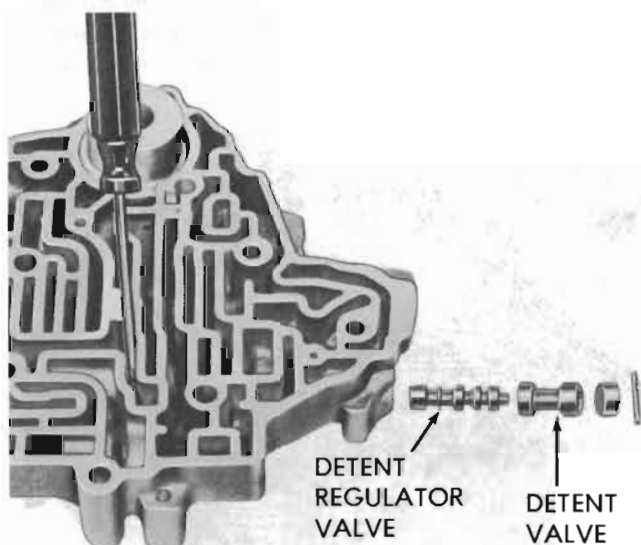

Figure 76-154
4. In the next bore up, install the detent spring and spacer. Compress spring and secure with small screwdriver. See Figure 76-154.
5. Install the detent regulator valve. Wide land first. See Figure 76-154.
6. Install the detent valve, narrow land first. See Figure 76-154.
7. Remove the screwdriver as the bore plug (hole out) and retaining pin are installed. See Figure 76-154.